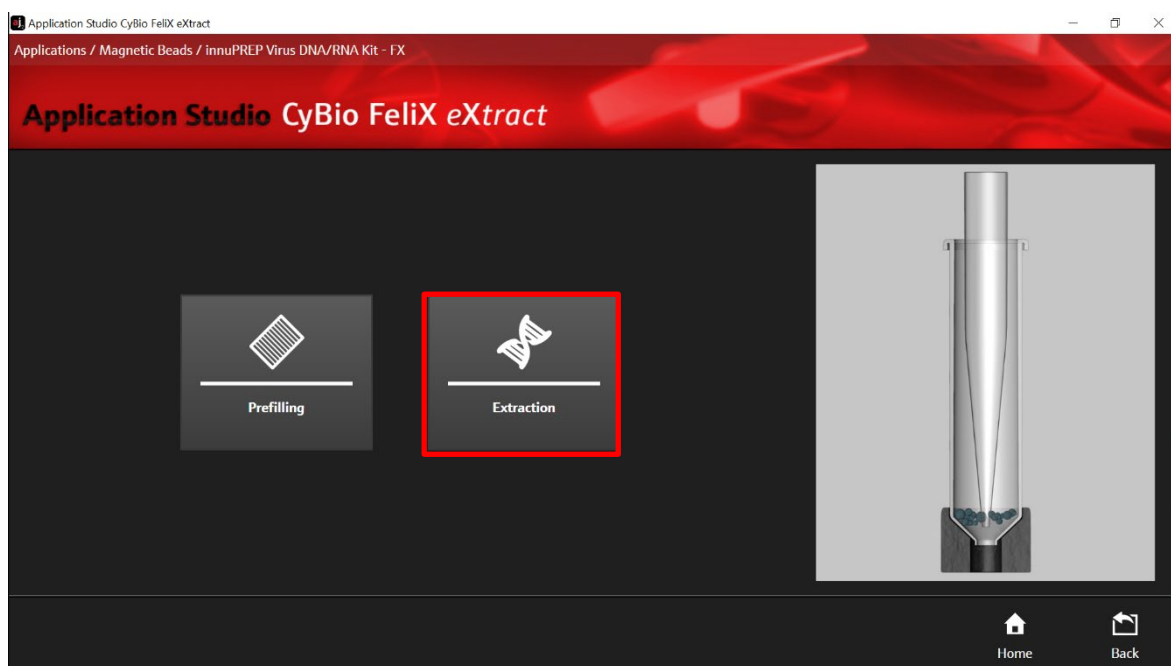

Figure 30: Routine selection: Extraction
5. Select "Extraction" (→ see Figure 30).